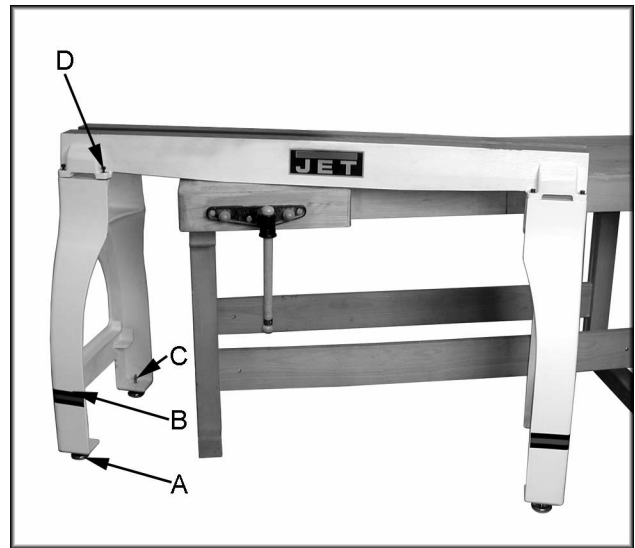

Fig. 2
2. Angle lathe bed so that stand leg mounting holes are accessible, see Figure 2.
3. Thread adjustable feet (A, Fig. 2) into stand leg (B, Fig. 2). There is a flat spot on the shaft near the foot that will accommodate a wrench. Thread a hex nut (C, Fig. 2) onto shaft and leave loose for now.
4. Mount the leg to lathe bed with four $5/16"$ flat washers and four $5/16"-18 \times 1-1/2"$ hex socket cap screws (D, Fig. 2).